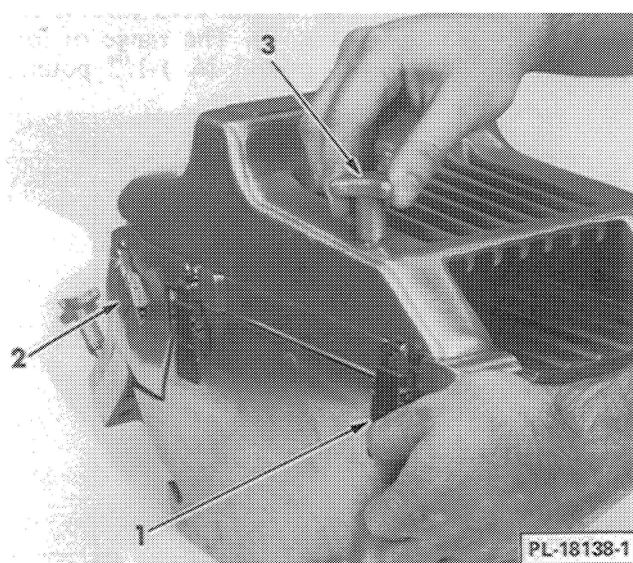
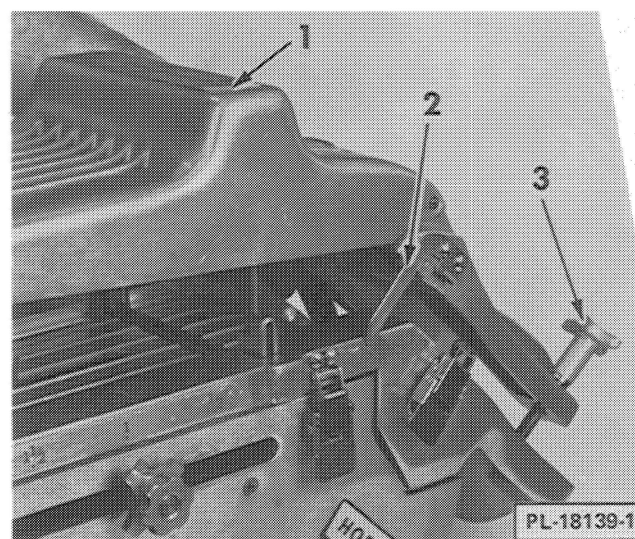

Fig. 2
Fig. 3
2. Place machine flat on table (chute parallel with table (Fig. 2)). Depress interlock knob (3, Fig. 2) rotate 90° counterclockwise. Release the one cover clamp (1, Fig. 2), then the two upper orifice clamps (2, Fig. 2) and the two clamping knobs (3, Fig. 3).
3. Raise the hinged cover (1, Fig. 3) and slide cover with orifice back to clear "L" shaped safety lock (2, Fig. 3). Remove cover and upper orifice from machine.